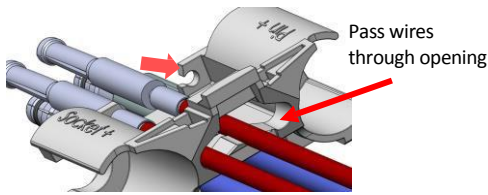

Figure 4
5. Install the upper auxiliary contacts on the top of the holder (Figure 4):